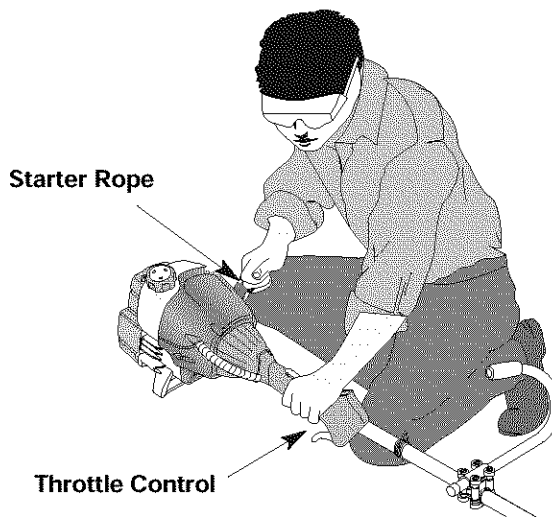

Fig. 8
WARNING: Avoid accidental starting. Remain in the starting position when pulling the starter rope (Fig. 8). The operator and unit must be in a stable position while starting to avoid serious personal injury.
5. With the unit in the starting position (Fig. 8), **DO NOT SQUEEZE THE THROTTLE CONTROL**. Pull the starter rope 5 times briskly, with the EZ-Start™ lever pushed to the left. If the engine starts to run before the fifth pull, proceed to step 6.
1. Release your hand from the throttle control (Fig. 8). Allow the engine to cool down by idling.